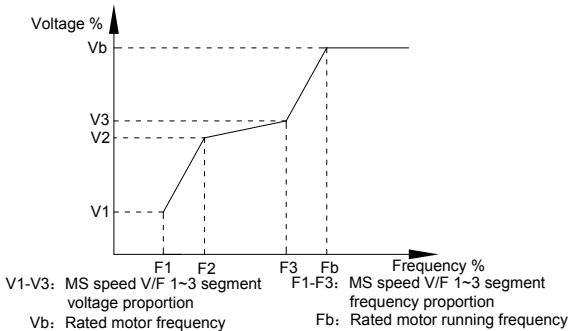

Fig. 5-4 Multi-point V/F curve setup schematic diagram
1) It must be set as follows: $V1 < V2 < V3, F1 < F2 < F3$. Fig5.4 is schematic diagram for multi-point V/F curve.